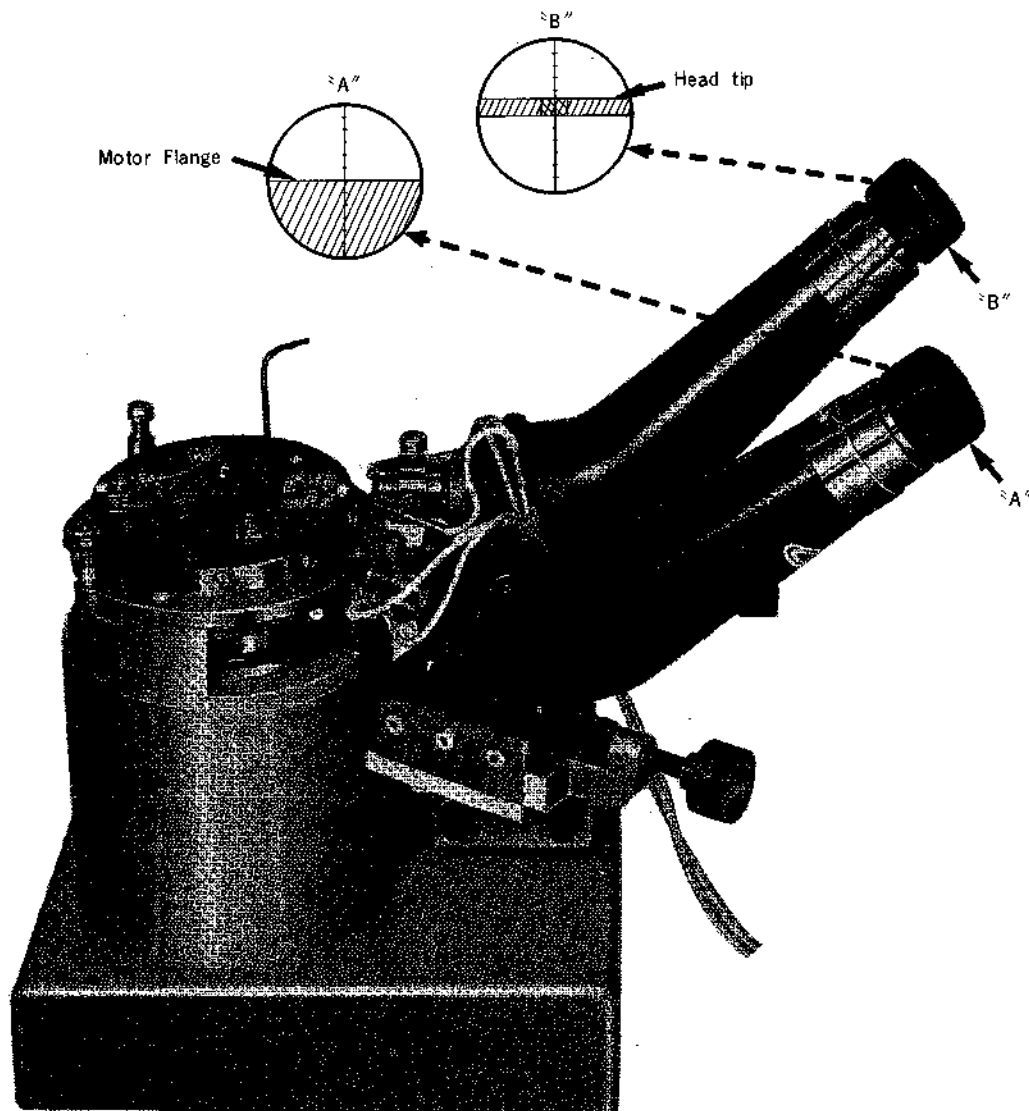

Fig. 12 Microscopic Views of Head Height
- (c) With Knob "C", adjust microscope height so that the motor flange edge can be seen above the center line of microscope A as shown in Fig. 12.
- (f) Adjust each of the various Head Tip Height Fine Adjustment Screws until the lower end of head tip can be seen above the center line of Microscope B as shown in Fig. 12.